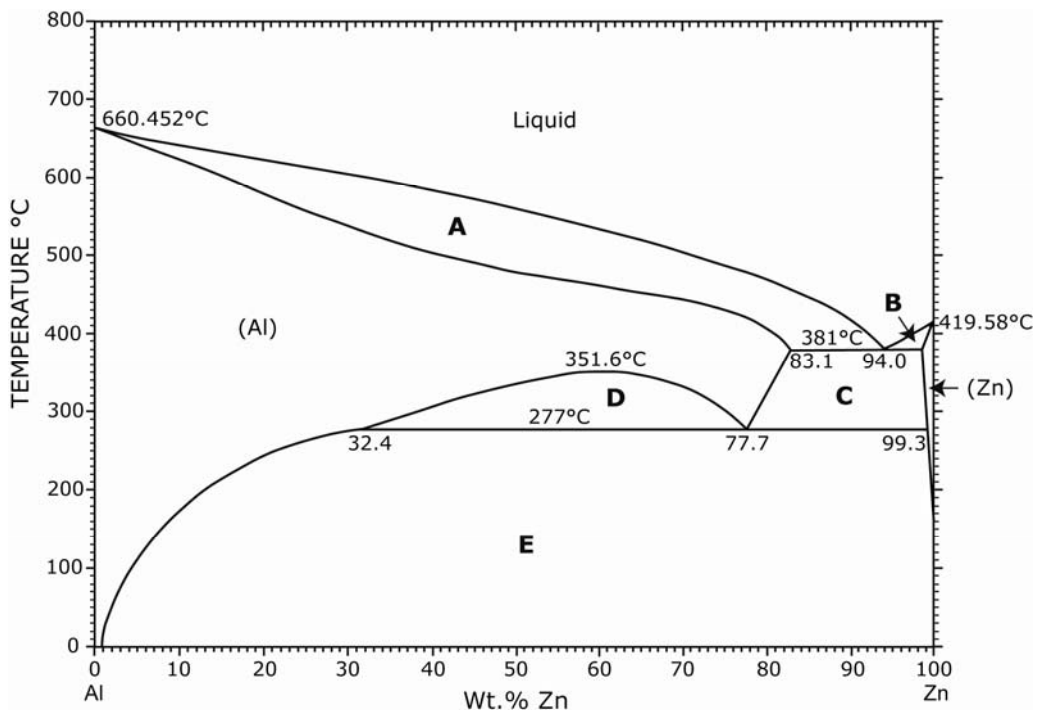

Fig. 3
- 4 (a) Figure 3 shows the phase diagram for the Al-Zn system.